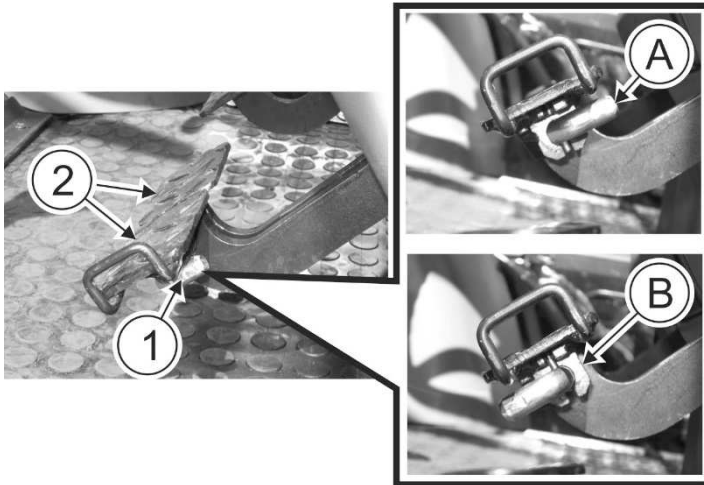

FIGURE 3.29 Pawl for locking working brake pedals.
When travelling on roads, brake pedals should be locked with pawl (1) (FIGURE 3.29)
During fieldwork, if necessity arises of making small radius turns one may brake after unlocking the catch, the left or the right wheel, by pressing the appropriate pedal. In order to unlock the pawl, pull it to the right and rotate from position **A** to position **B** (FIGURE 3.29).